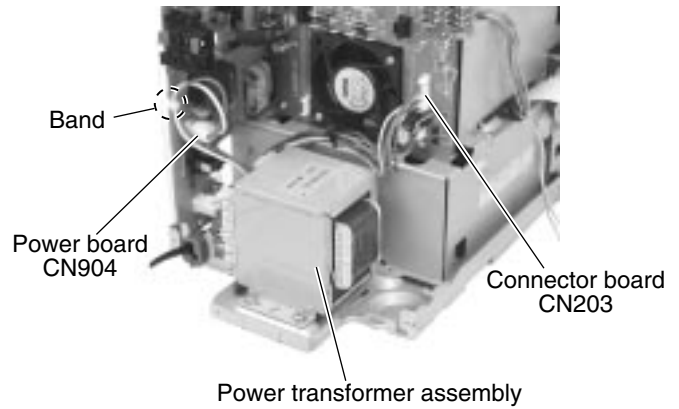

Fig.34
■ Removing the power transformer assembly (See Fig.34 and 35)